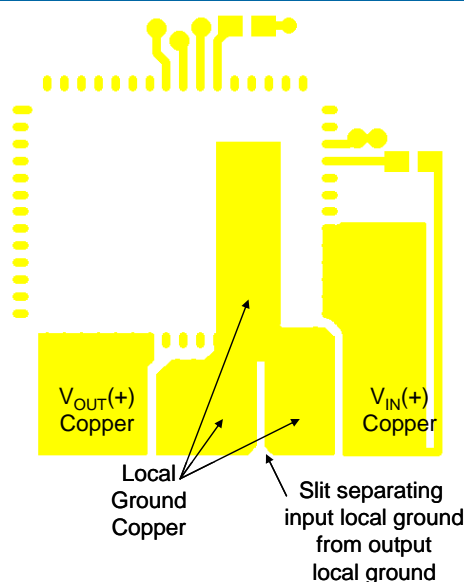

Figure 5. Layout of power and ground copper.
**Recommendation 2:** Place a slit in the input/output capacitor ground copper starting just below the common connection point of the device GND pins as shown in figures 5 and 6.
**NOTE:** Figures 5 and 6 show only the critical components and traces for a minimum footprint layout. ENABLE, Vout-programming, and other small signal pins need to be connected and routed according to the specific application.